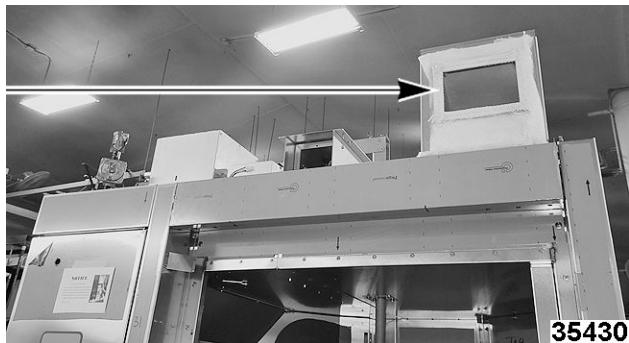

Fig. 107
- D. Apply high temp red silicone around face of overpressure duct (Fig. 107).